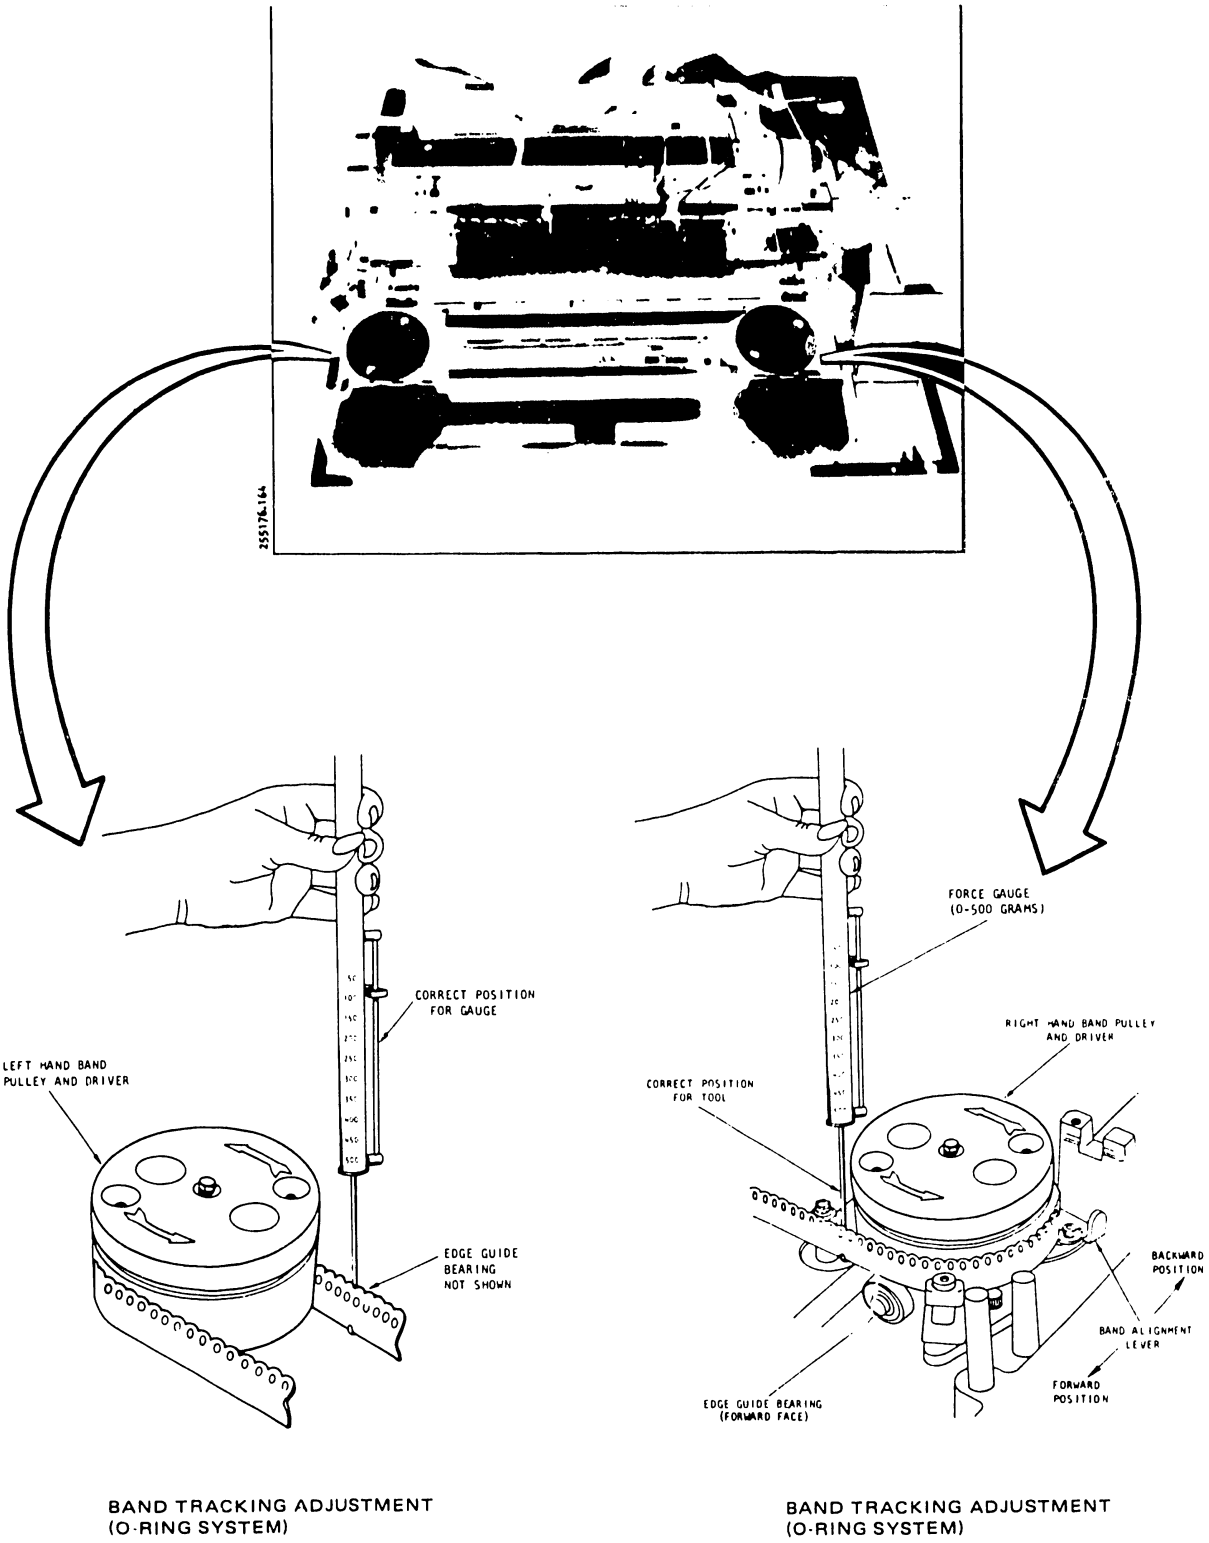

Figure 3-36. O-Ring System, Band Tracking Adjustment (Method 2)
8. Place the hook of a grams force gauge (0-500 grams) in the position illustrated in figure 3-36.